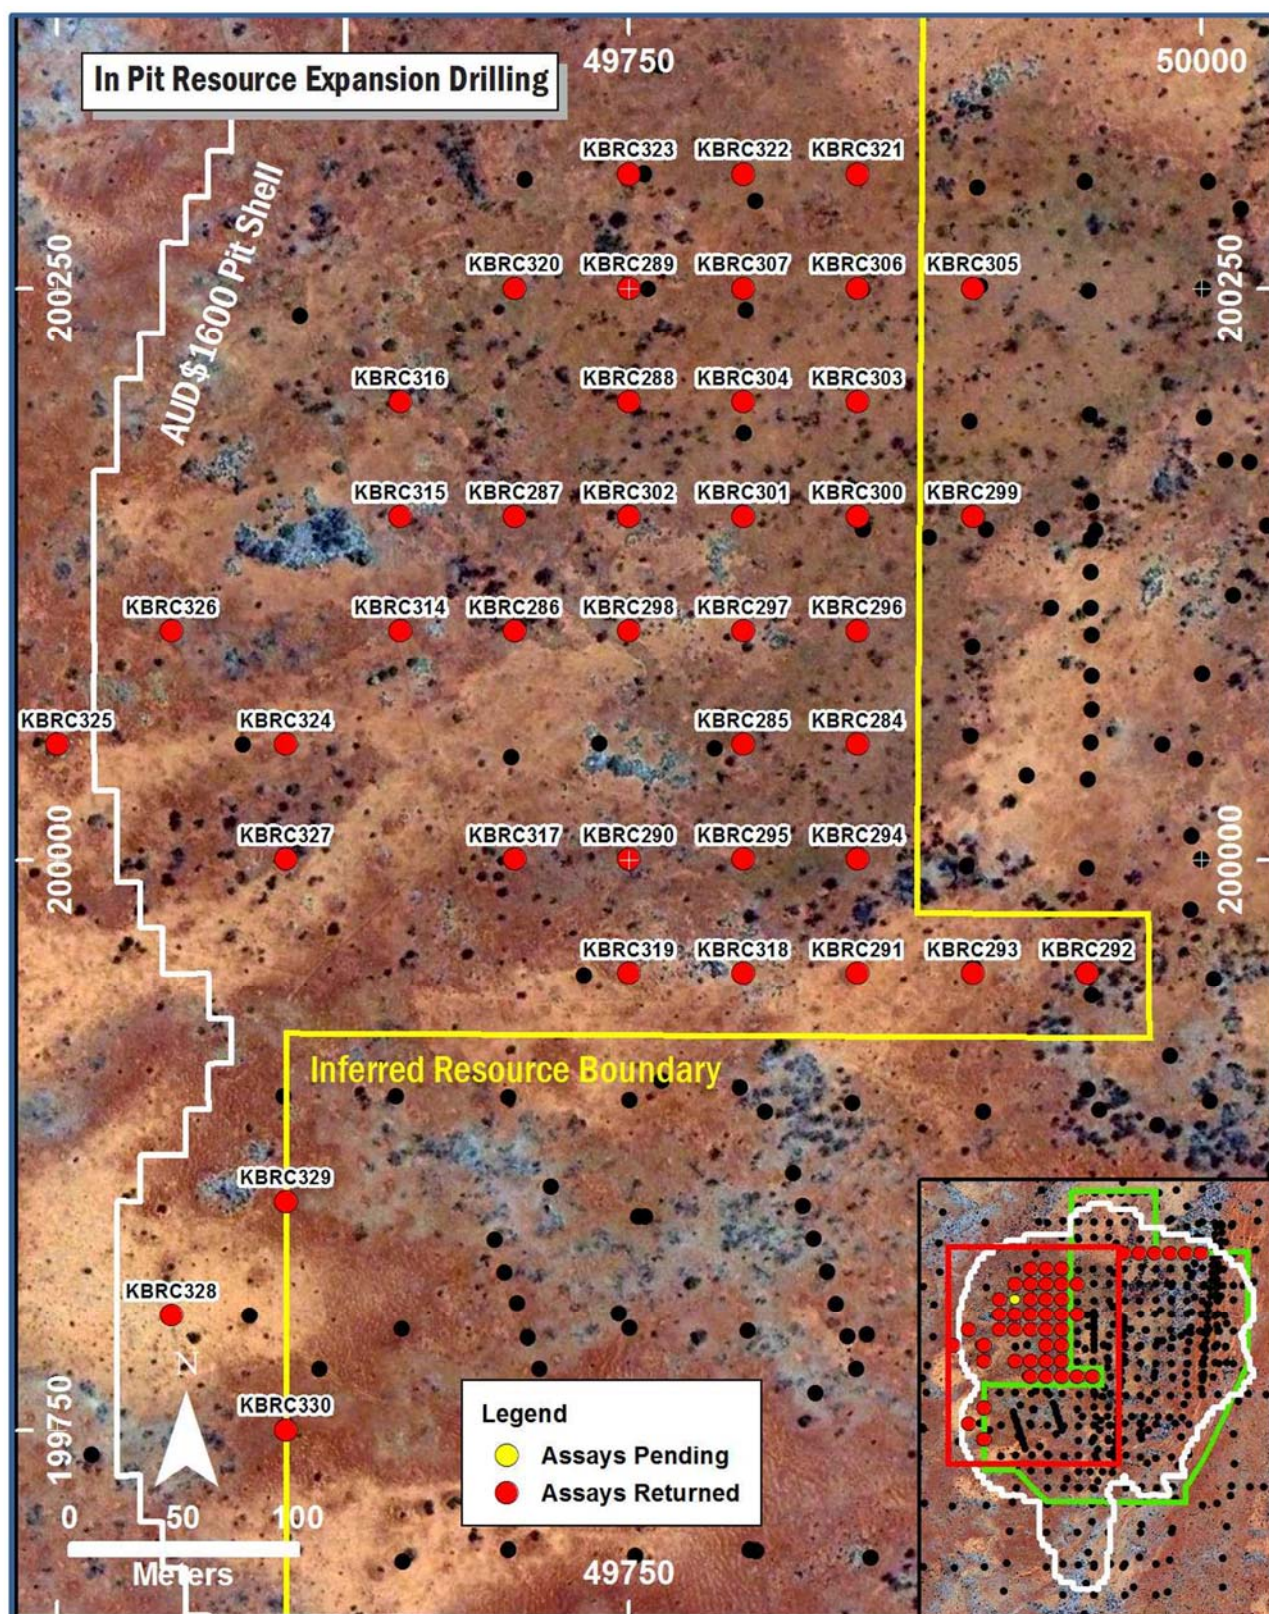

Figure 2: Plan Showing Current Drilling Status
- A series of drill-holes (KBRC 324 to 330) were drilled to test for significant extensions of the mineralisation outside of the current resource in the down-dip position. The results demonstrate that strong gold mineralisation extends for at least a further 200m down-dip and has the potential to expand the resource well beyond the current resource boundary (Figure 2). The results from this drilling include: